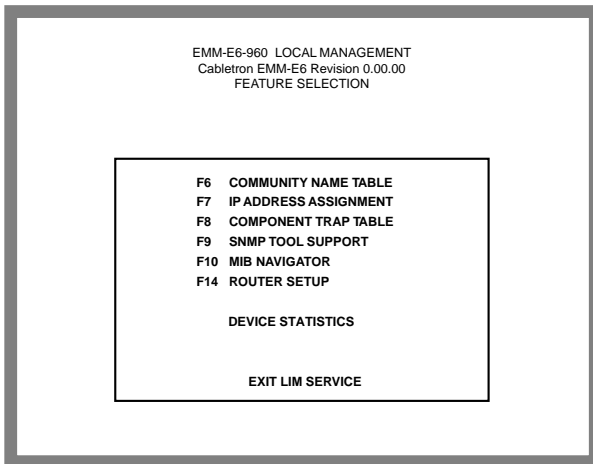

Figure 5-2. Feature Selection Screen
- After entering a valid password, an associated access level flashes across the bottom of the screen, and then the Feature Selection Screen, Figure 5-2, appears.